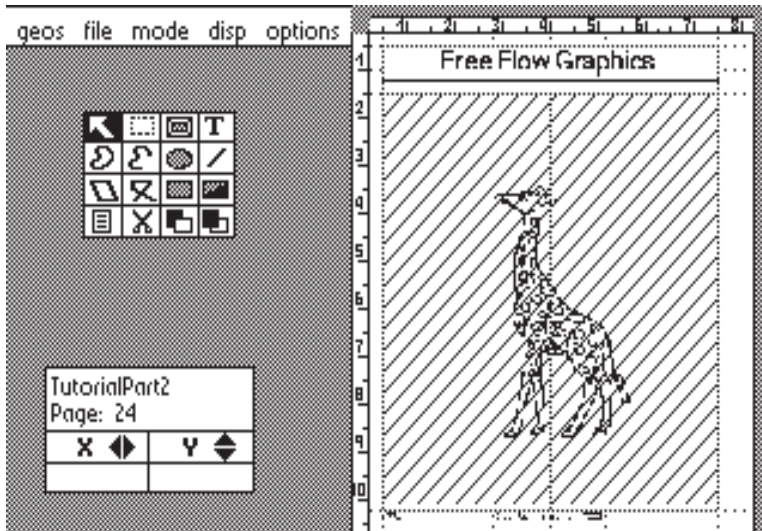

Figure 4: Place your Graphic in Page Graphics Mode without a Region.
Make sure your graphic (the giraffe in this case) is in a Photo Scrap and choose the P.G. Bitmap Placement Tool. Move into the middle of the page (about 3 1/2" and 2 3/4") and place the graphic. You can now select it (with the Arrow tool), open the Attributes box (select Stretched & Scaled) and resize it however you wish. To create our faux ad I am going to stretch it down to the 9" mark and over to 5 3/4" on the horizontal scale (Figure 4). It is a little easier to do this if you use Guidelines or if you get it close to the size you want in Preview and then change to Zoom for final placement.
Change to Page 26. Select the Zoom View again and place the box at the top right corner of the text column (1/2" and 2"). Draw a vertical line at the 3 1/4" mark. Draw the horizontal line at the 1 1/8" mark. Copy Fig4 to a Photo Scrap with Photo Manager and then place it on the page at the intersection of our lines. Erase the lines and return to Preview.
**"Figure 4: Place your Graphic in Page Graphics Mode without a Region."**